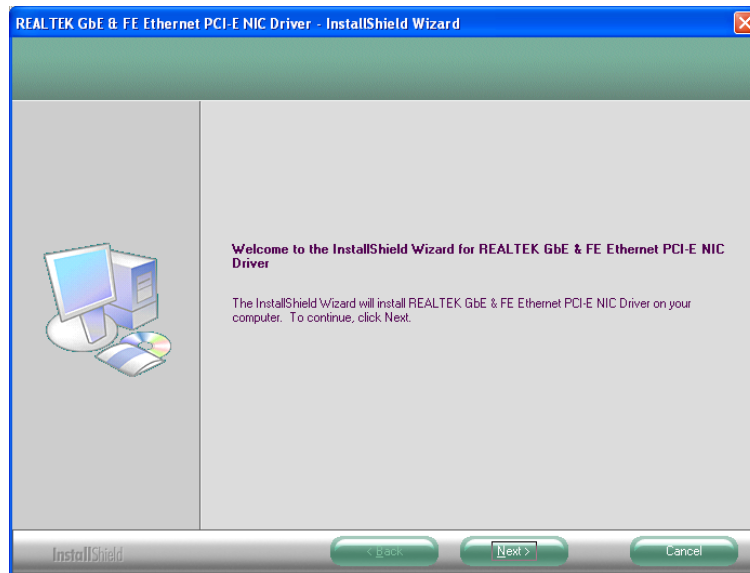

Figure 7-17: LAN Driver Welcome Screen
Step 3: The **Welcome** screen in Figure 7-17 appears.